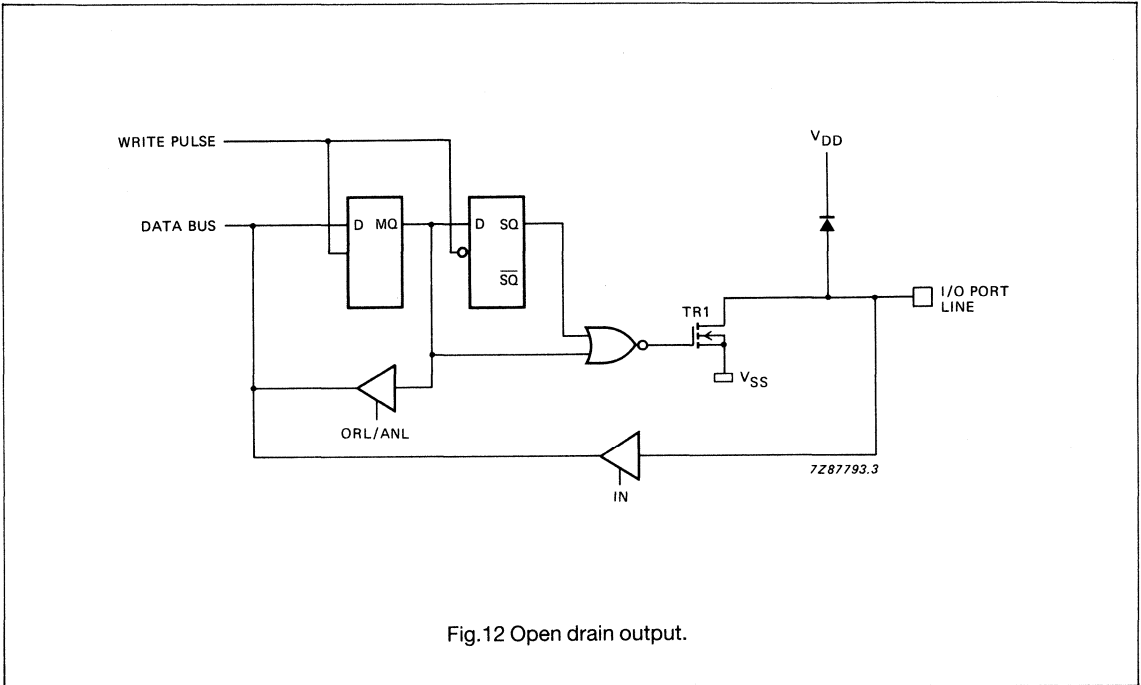

Fig. 12 Open drain output.
- Option 2 OPEN DRAIN; quasi-bidirectional I/O with only an N-channel open drain output. Application as an output requires connection of an external pull-up resistor (Fig.12).